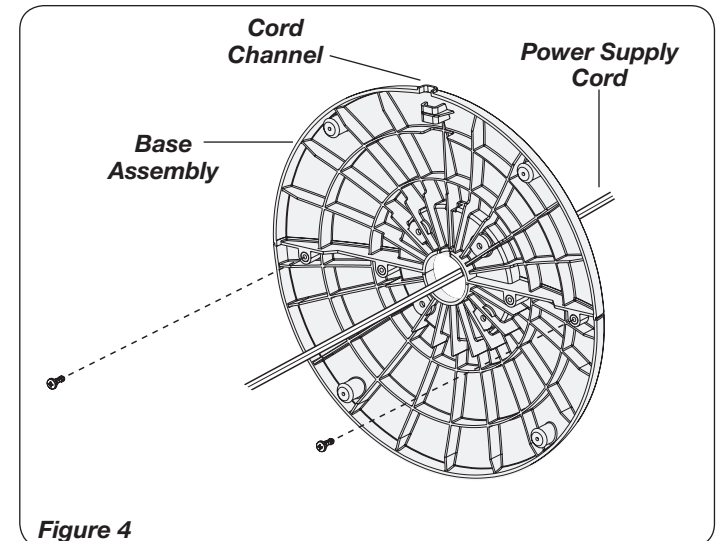

Figure 4
- Secure the Base halves with (2) M4 X 13mm Screws. Thread the **Power Supply Cord** through the large hole in the **Base Assembly**. **NOTE:** The **Cord Channel** on the bottom of the Base should be towards the back of the Heater. (Figure 4)